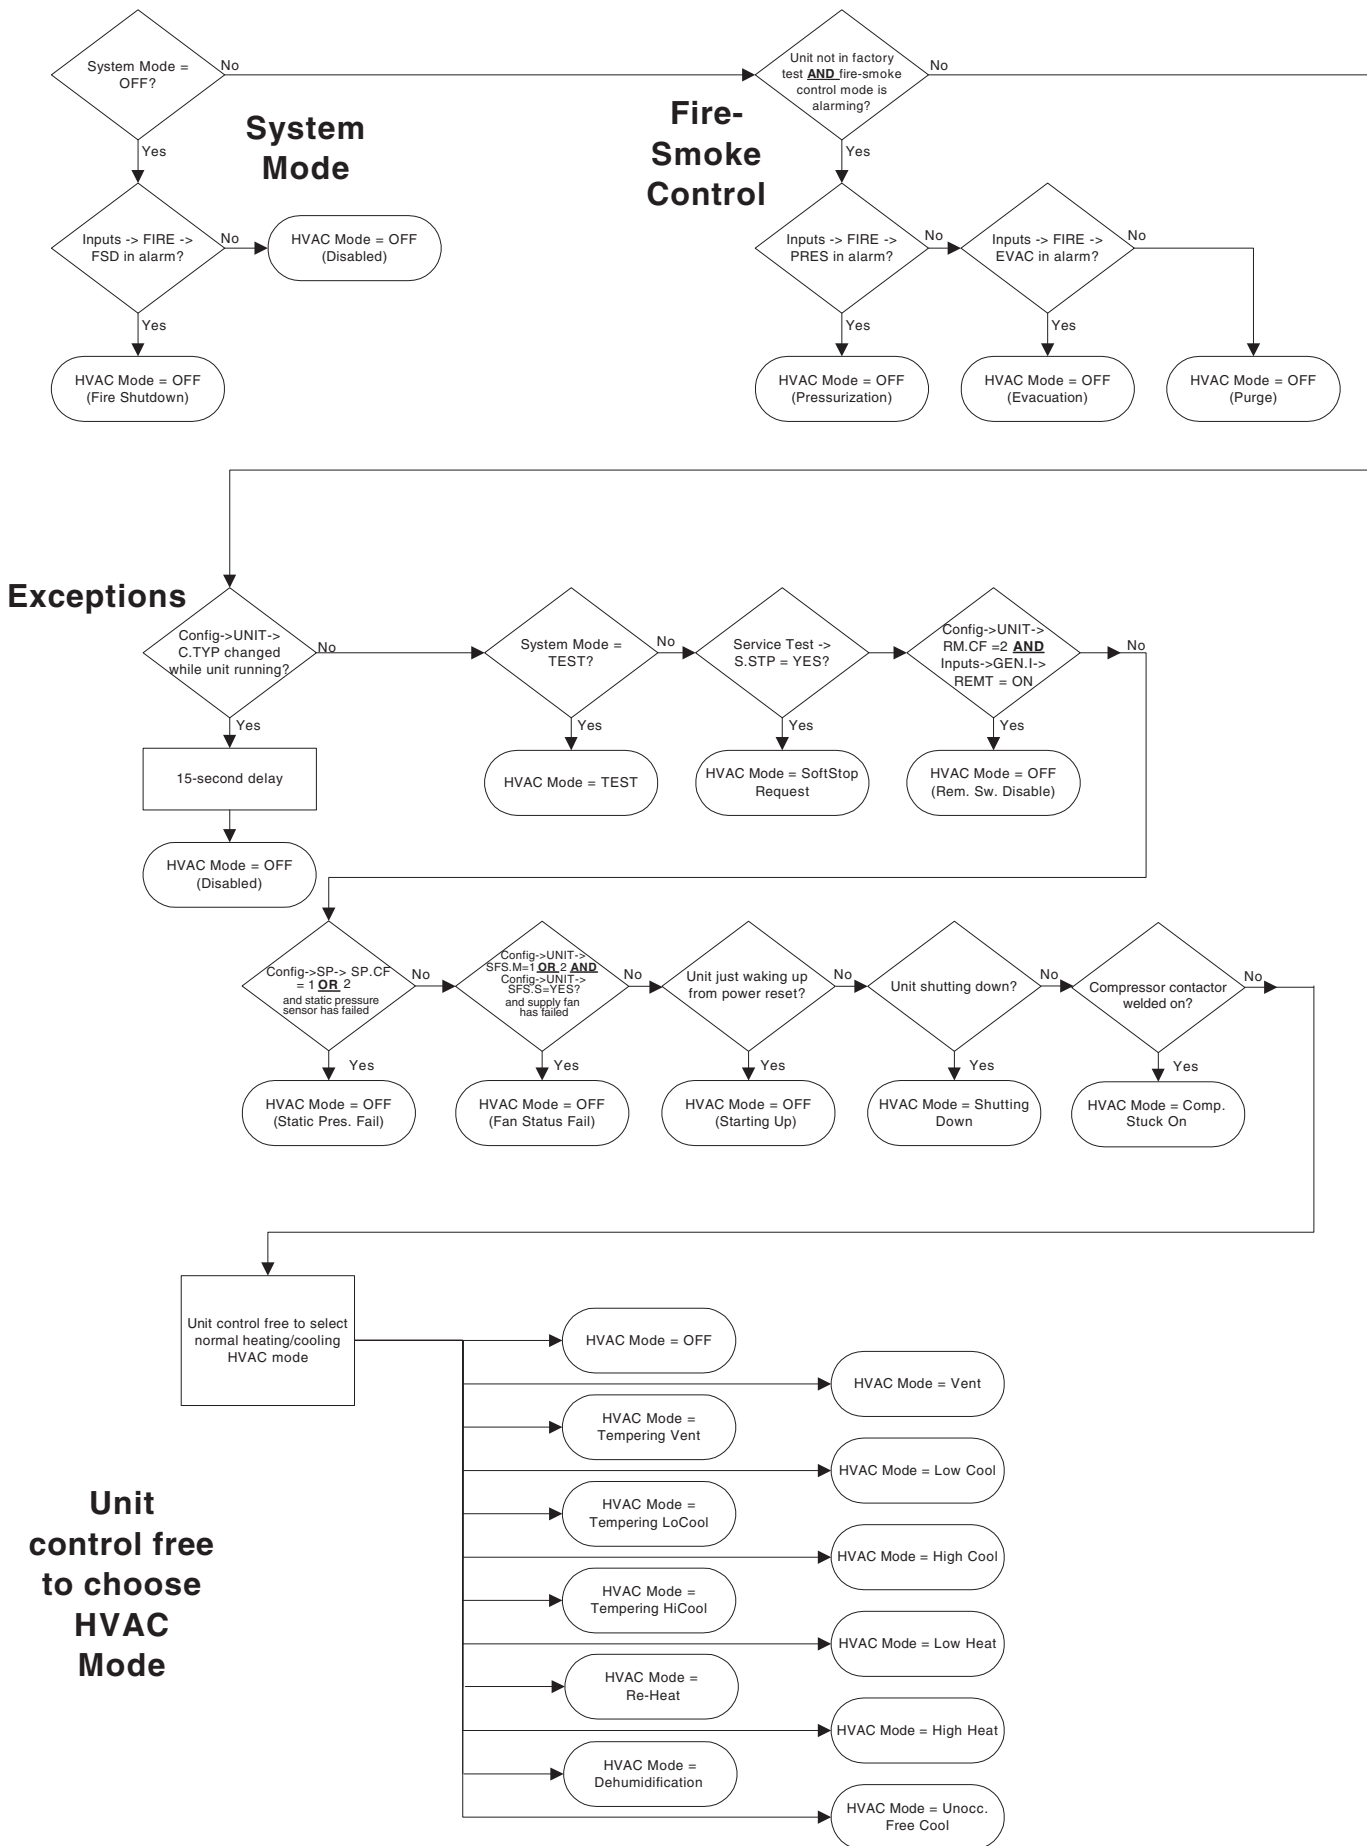

Fig. 4 — Mode Selection
**HVAC MODES (Operating Mode → HVAC)** — The system mode must be selected before the unit controls can select the HVAC mode of the rooftop unit. The selection of an HVAC mode is based on a hierarchal decision making process. Certain overrides may interfere with this process and the normal temperature/humidity control operation of the unit. The decision making process that determines the HVAC mode is shown in Fig. 4 and Appendix D.